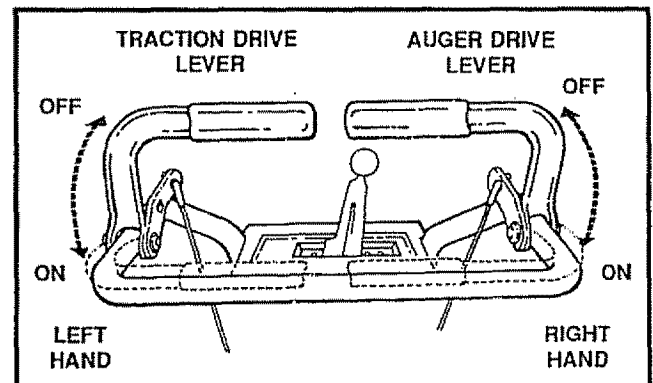

FIG. 10
- To stop throwing snow, release the auger drive lever (See Fig. 10).
- Engage the traction drive lever (See Fig 10, left hand). As the snow thrower starts to move, maintain a firm hold on the handles, and guide the snow thrower along the clearing path. Do not attempt to push the snow thrower.
- Push down the auger drive lever (See Fig. 10, right hand).